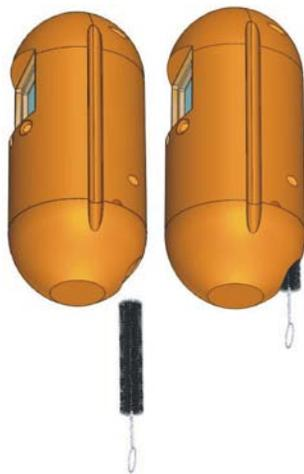

Figure 35 – CastAway™-CTD Cleaning Brush
- Insert the brush into the bottom of the cell and gently move back and forth to clean (Figure 35).